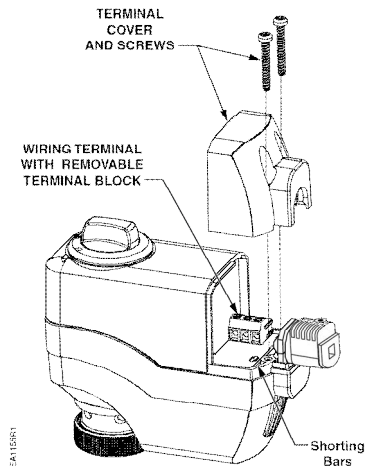

Figure 5. Manually Clearing Calibration Stroke from Memory.
- Insert and gently twist a flat-blade screwdriver to electrically connect the shorting bars (see Figure 5). The SSD61.5U then performs a new calibration stroke.